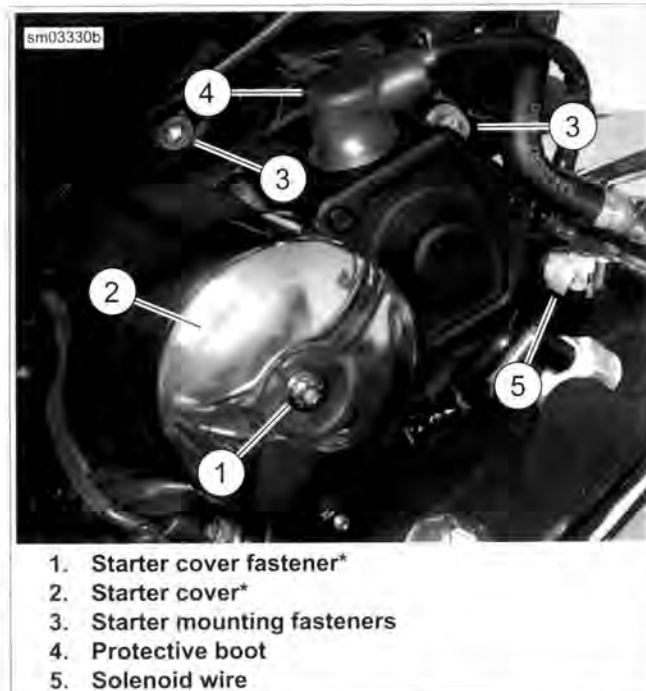

Figure 7-20. Starter (Items marked with an asterisk, not used on all models)
4. See Figure 7-20. Remove starter cover fastener (1) and starter cover (2) from starter, if applicable.
- a. Remove protective boot (4).
- d. Disconnect solenoid wire (5).
6. Remove both starter mounting fasteners (3).